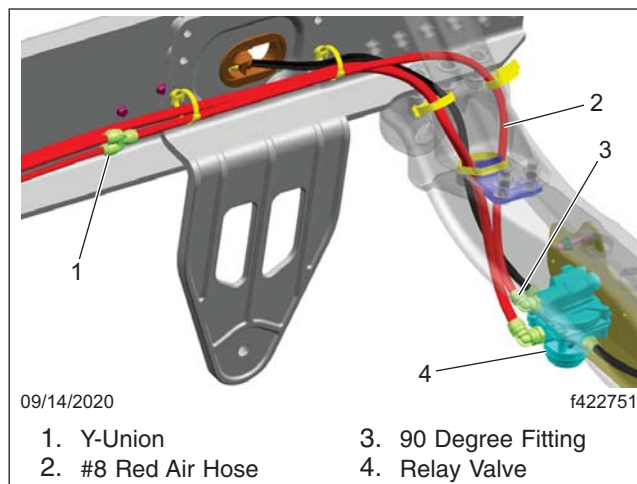

Fig. 7, Disconnecting and Removing the #8 Red Air Hose
10. Locate the front brakes, then disconnect and remove the #8 red air hose that connects the 90 degree fitting at the control port of the front brake relay valve to the Y-union, located in the frame rail. See Fig. 7.